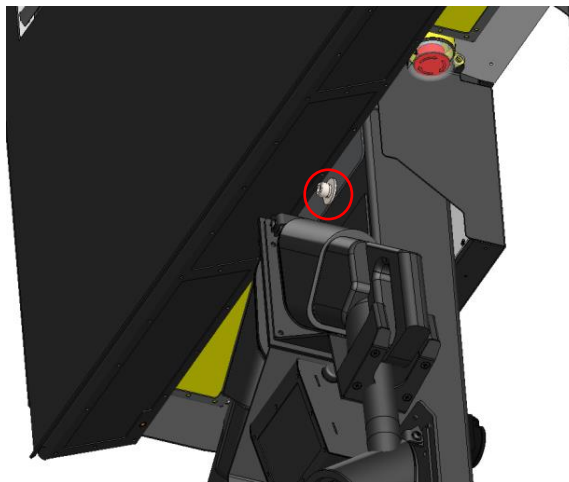

Figure 5.9. Location of the screw on the back of the station
2. Remove the screw on the back of the station (Fig. 5.9) and remove the filter housing downward.